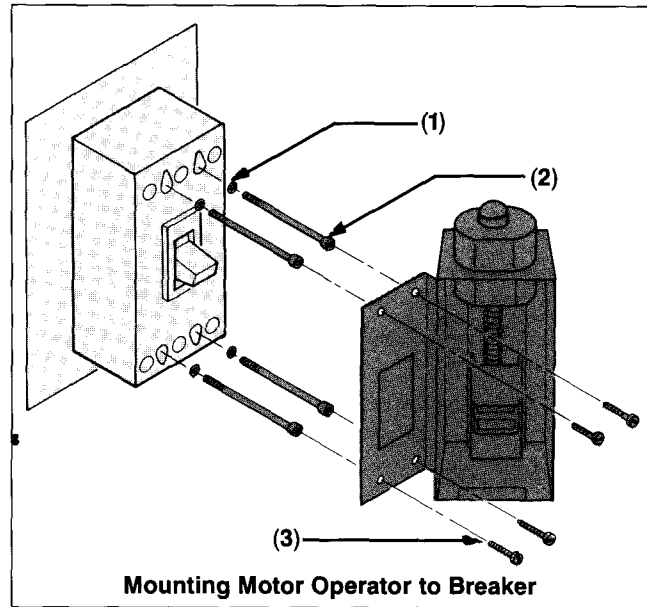
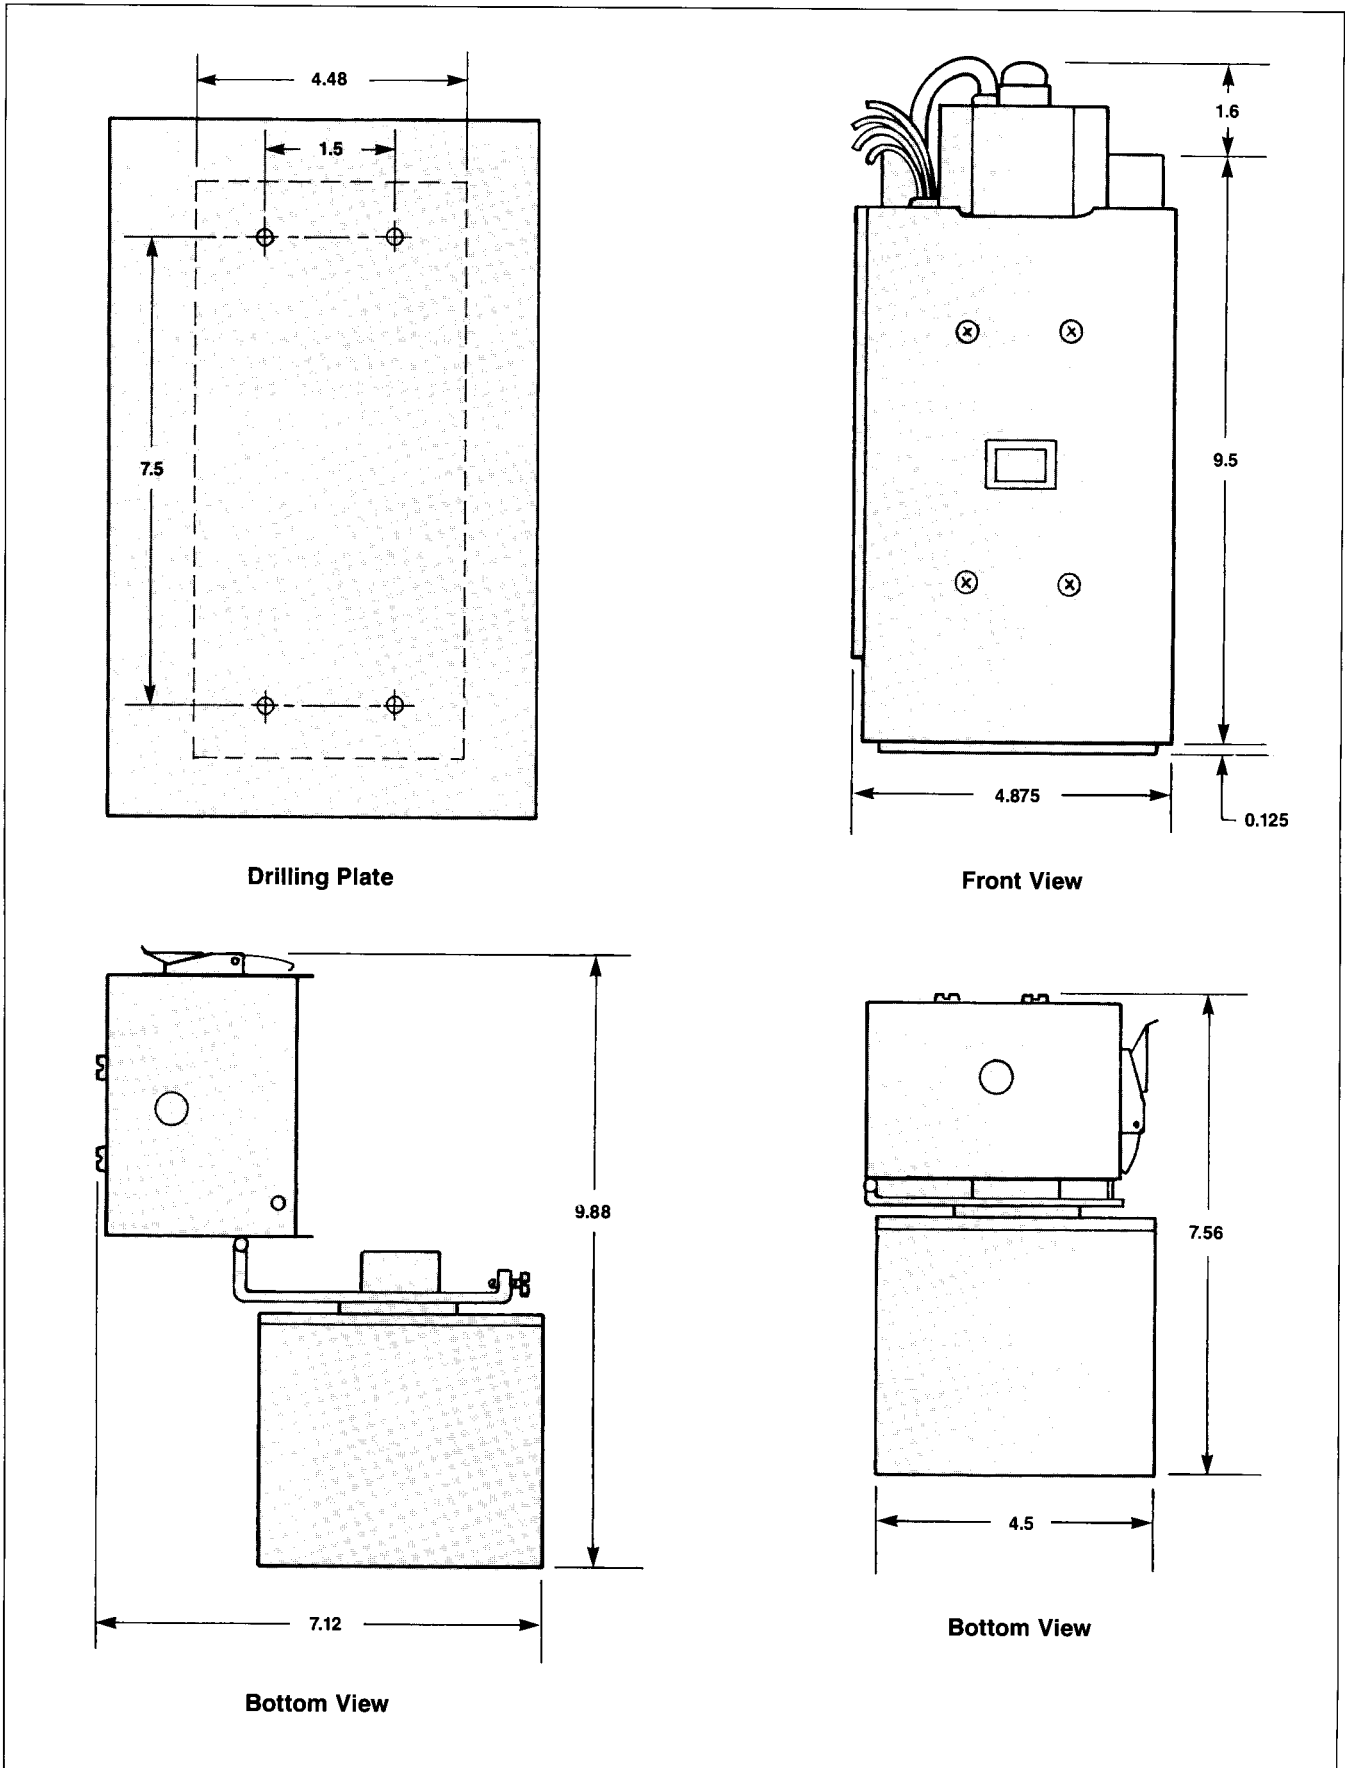

Figure 1
Figure 3
- G. Place bottom spring (11) over the bottom thin wall hex nut inside the enclosure door.
- H. Turn the handle 1/4 turn clockwise (looking from inside the enclosure door) and attach the latch plate roller to the handle shaft, while inserting the bent leg of the spring into the hole in the latch plate. Fasten with a locking-type flange nut. Tighten the nut, then loosen 1/8 turn to allow movement of the roller assemblies (Figure 1).
NOTE: Straight leg of spring must rest against pin (12) on handle plate. See inset on Figure 1.
- I. Place top spring (13) over top thin wall hex nut. Attach lockout plate (14) to lockout screw using locking type flange nut. Tighten flange nut. Insert bent leg of spring into hole in lockout plate as shown in Figure 1 detail.
- J. Attach the interlock defeater lever (15) to the latch bar (16) with two #10 lockwashers and #10-24 screws.
NOTE: The position of lever depends on enclosure depth (Figure 3).
- Attach the circuit breaker to its mounting surface using the mounting washers (1) and mounting screws (2) supplied with the motor operator (Figure 1). Refer to installation dimensions (Figure 3).
- With its cover open, attach the motor operator to the circuit breaker using four #10-32 truss head mounting screws (3) provided (Figure 1).